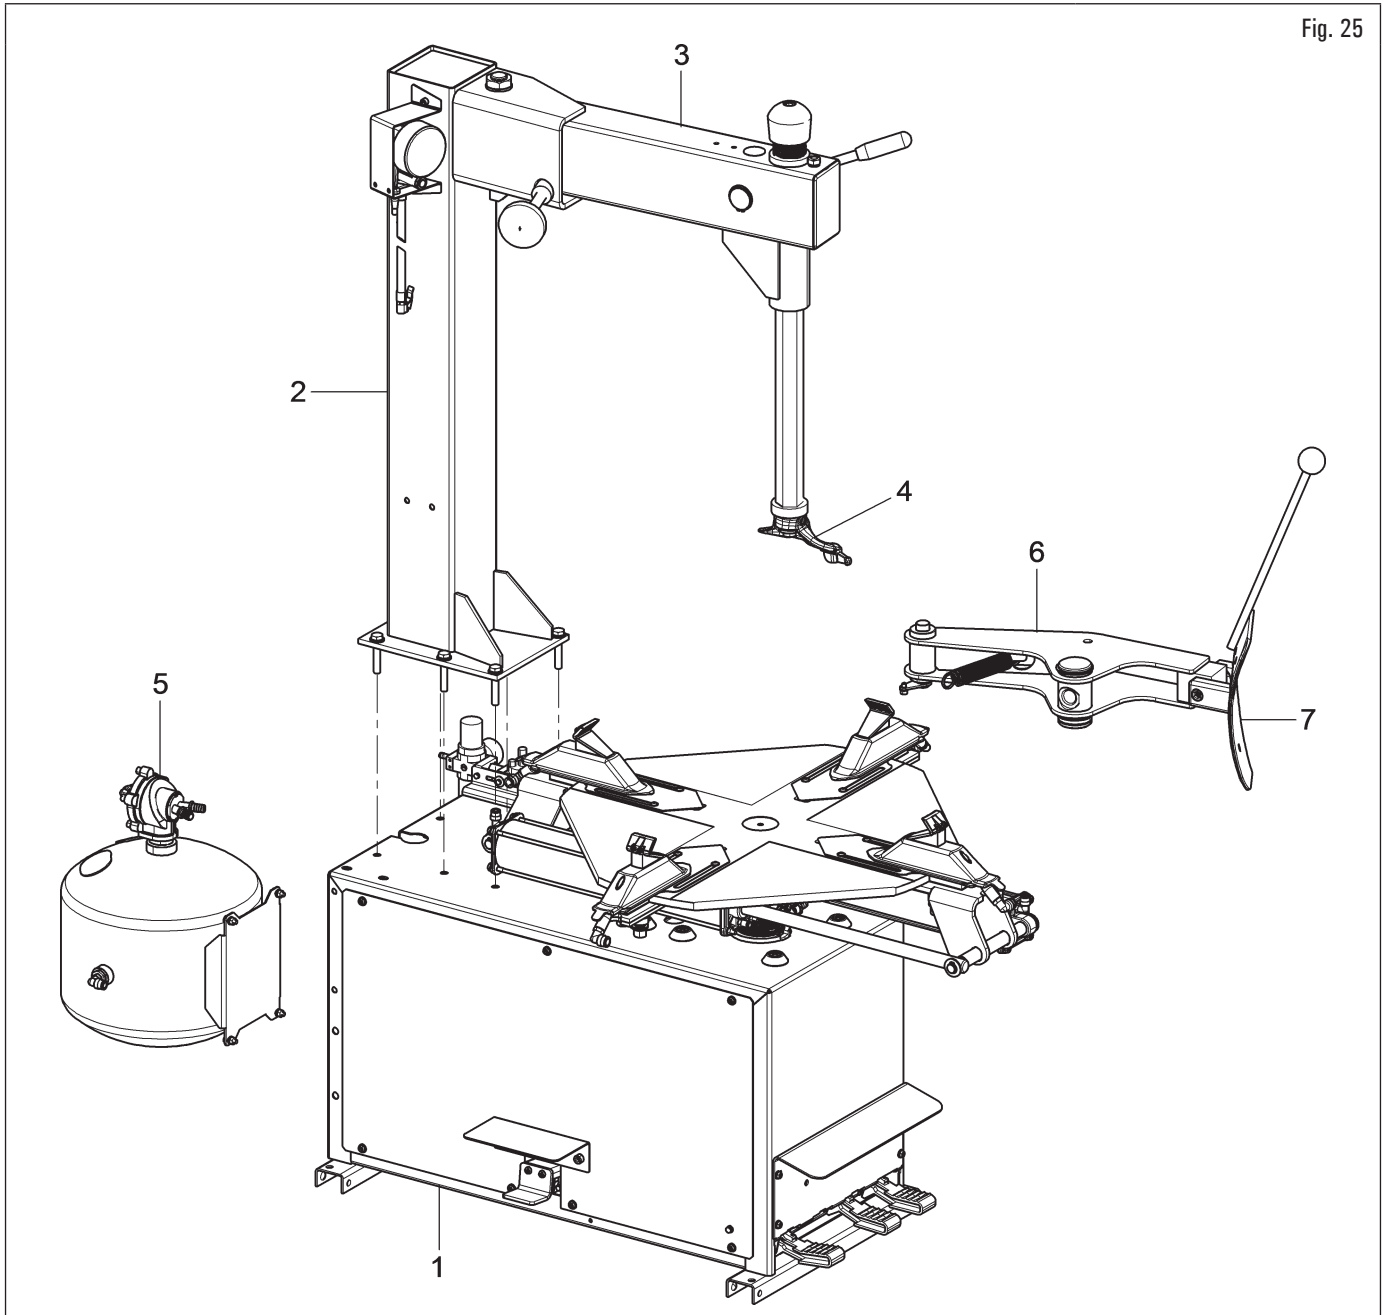

Fig. 25
The tyre-changer is usually made up of the following main assemblies (see Fig. 25):
- ref. 1 base;
- ref. 2 head (vertical post + flag arm (Fig. 25 ref. 3) + toolhead (Fig. 25 ref. 4);
- ref. 5 pressure vessel (applies to model with tubeless inflation system);
- ref. 6 bead breaker arm;
- ref. 7 bead breaker shovel;
- ref. 8 bolts and nuts.